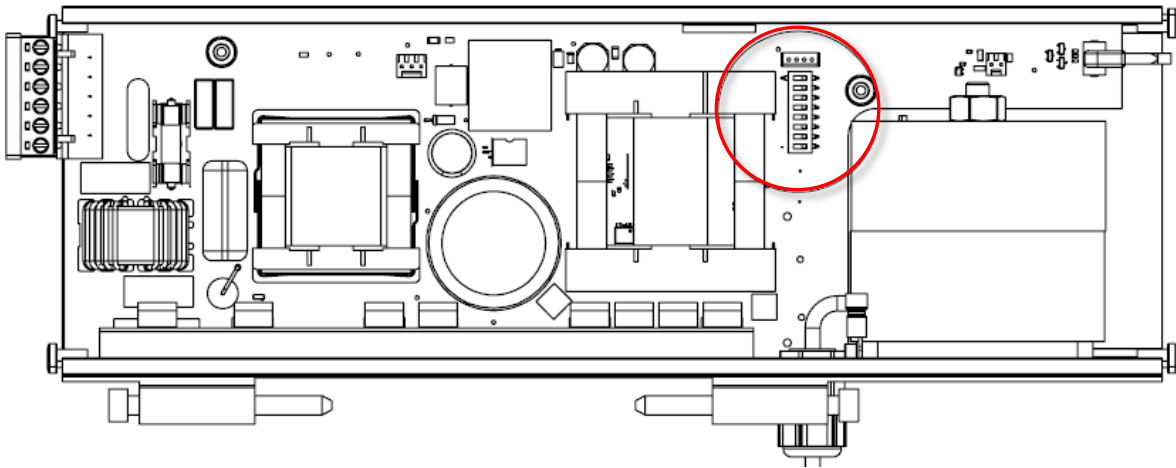

Figure 61 Locate the DIP-switches
- d. Locate the DIP-switches on the PCB, see the red circled area in Figure 61.